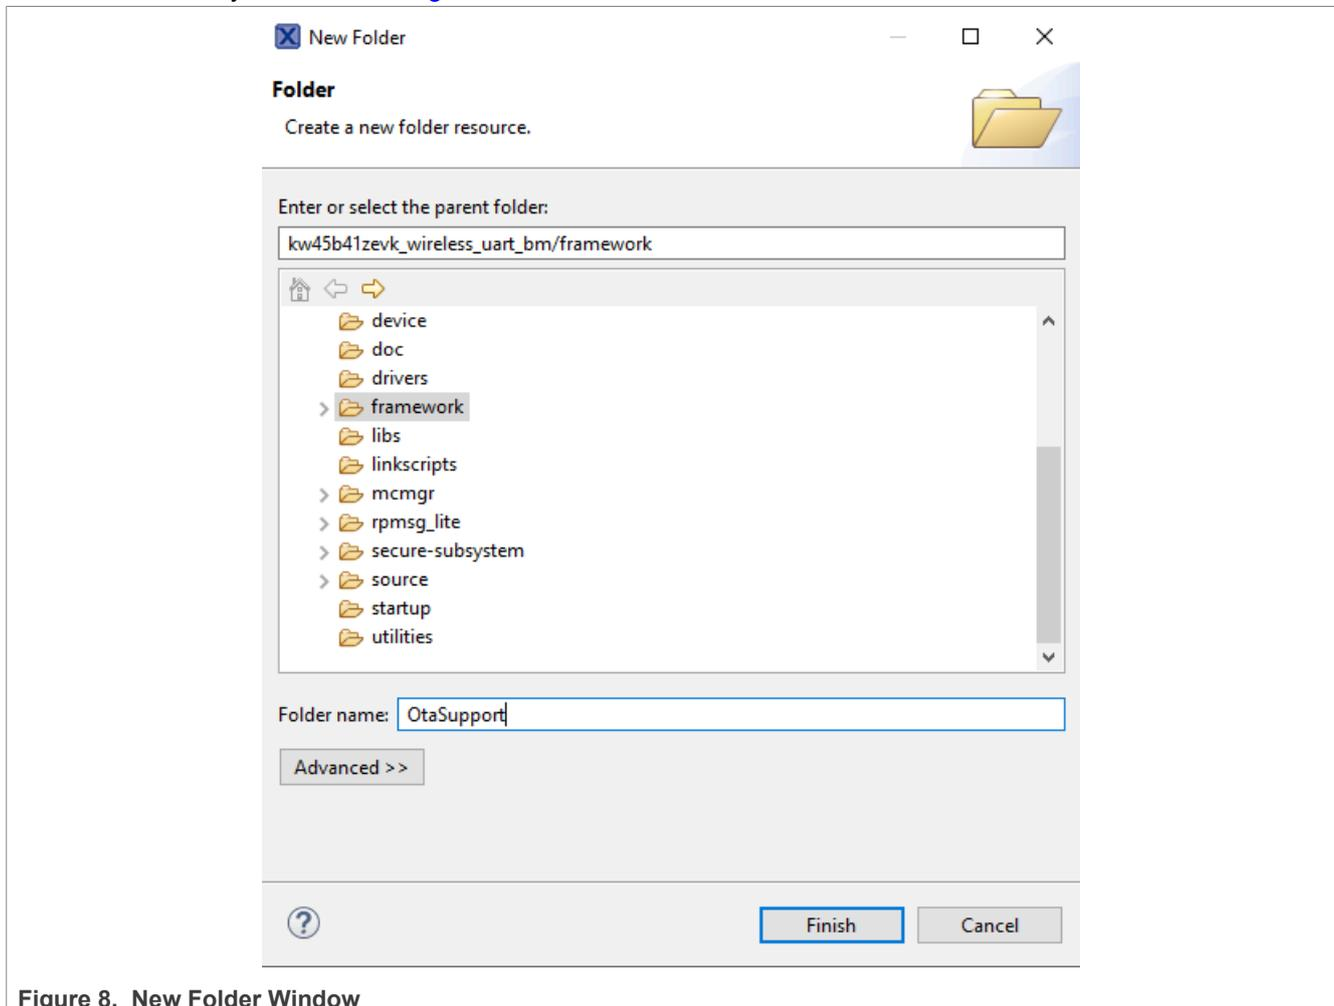

Figure 8. New Folder Window
2. Select **New -> Folder**. The **Folder** window appears to provide the same name as the missing folder in the source directory, as shown in Figure 8.